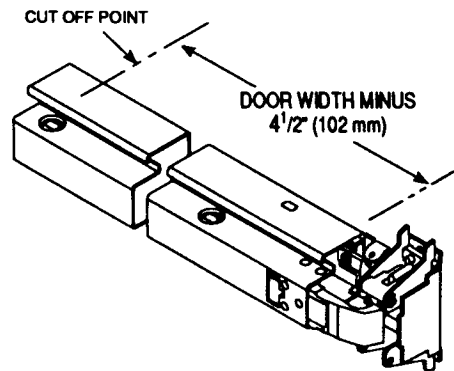

Figure 7
- B. Measure and mark bar as shown (Figure 7).